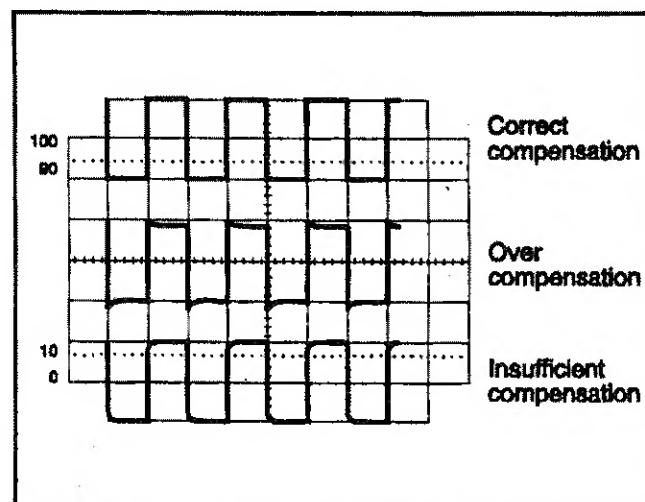

Fig. 6. Probe Compensation Adjustment
4. Adjust compensation trimmer on probe for optimum square wave (minimum overshoot, rounding off, and tilt). Refer to Fig. 6